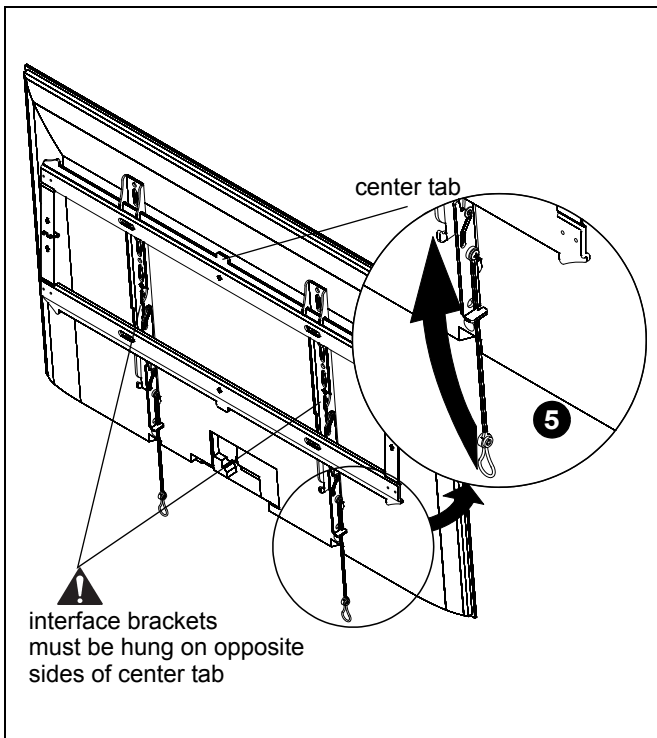

Figure 9
WARNING: Interface brackets must be hung on opposite sides of the center tab on wall plate! (See Figure 9)
5. Straps can be tucked behind display on notch on interface brackets (B) after installation is complete so that they will not be visible to the viewer. (See Figure 9)